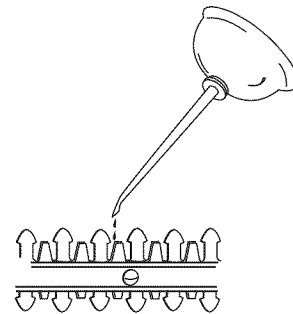

Fig. 6
2. Apply a light machine oil along the edge of the top blade (Fig. 6).